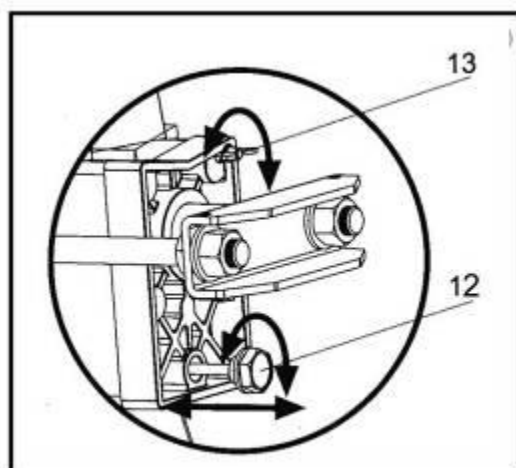

Fig. 4
Before operating the log splitter, the Bleed Screw (13) Fig. 4, should be loosened by some rotations until air can go in and out of the oil tank smoothly.